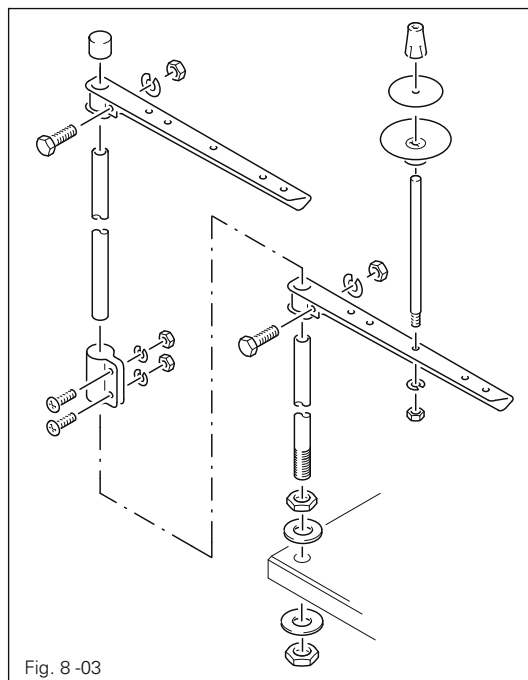

Fig. 8 - 03
- Fit the reel stand as shown in Fig. 8 - 03.